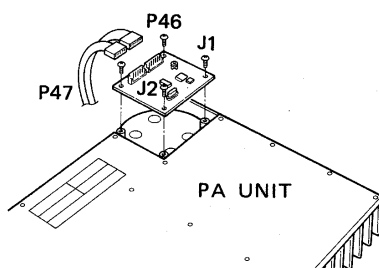

Fig. 2
- 5) Connect P47 (5 pins) from the LOGIC and FRONT UNITS to J2 on the UT-34. (Fig. 2)